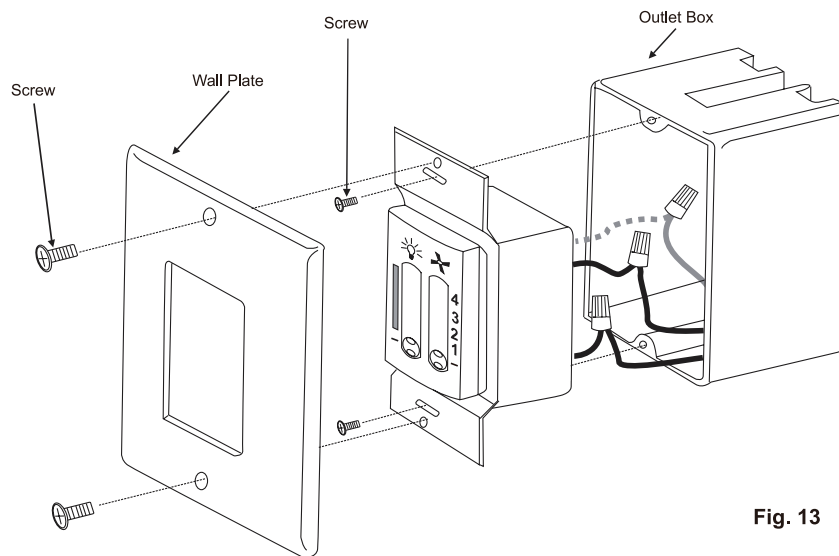

Fig. 13
Step 1. (Fig. 13) Carefully tuck the wire connections inside the outlet box. Secure the wall